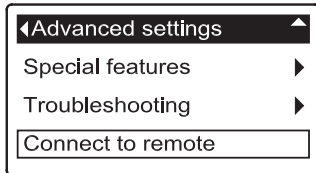
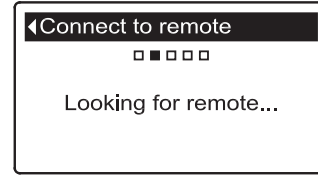
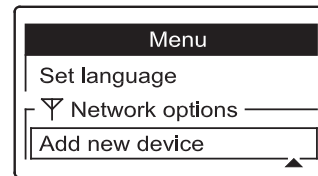

FIG. 39
FIG. 40
FIG. 44
4. Press the conditioner/refiner’s SELECT (O) button to display the Advanced settings menu (See Figure 39).
7. Press the remote’s DOWN (▼) button to scroll through the menu options until **Add new device** is highlighted in a box (See Figure 44).
9. Make sure the conditioner/refiner’s display still shows the screen in Figure 39. Press the conditioner/refiner’s SELECT (O) button to display the “Looking for remote” screen (See Figure 40).
10. Within a few seconds the screen should change to show “Remote found” (See Figure 41). If, after about one minute, the conditioner/refiner’s screen instead reads “New remote not found,” press the conditioner/refiner’s SELECT (O) button to return to the screen in Figure 39 and press the remote’s LEFT (◀) button to return to the screen in Figure 44. Then repeat this procedure from Step 8. If the remote is not found after several tries, contact your dealer for service. Take note of the message on the remote’s screen after an unsuccessful attempt, as it indicates the nature of the problem.
11. Press the conditioner/refiner’s SELECT (O) button. The display will go back to the Advanced settings menu (Figure 39).
2. Press the DOWN (▼) button to scroll through the menu options until **Add new device** is highlighted in a box (See Figure 44).
4. When the remote detects a signal from the device, the display will change to show that it has been added to the remote (See Figure 46). If another message appears instead, indicating the device was not added successfully, press the LEFT (◀) button to return to the screen in Figure 44. Repeat Step 3. If this does not work, contact your dealer for service.